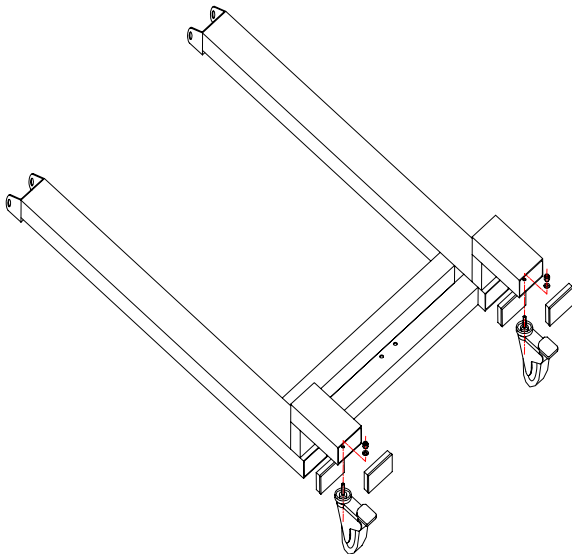

Fig. 1
1. Remove cassette assembly box from the main packaging together with the main upright column and arm assembly. Remove the base unit and attach the braked castors at the rear of the base (see Fig. 1). Ensure that you have a flat floor and apply the brakes on the rear castors. Remove all packaging.